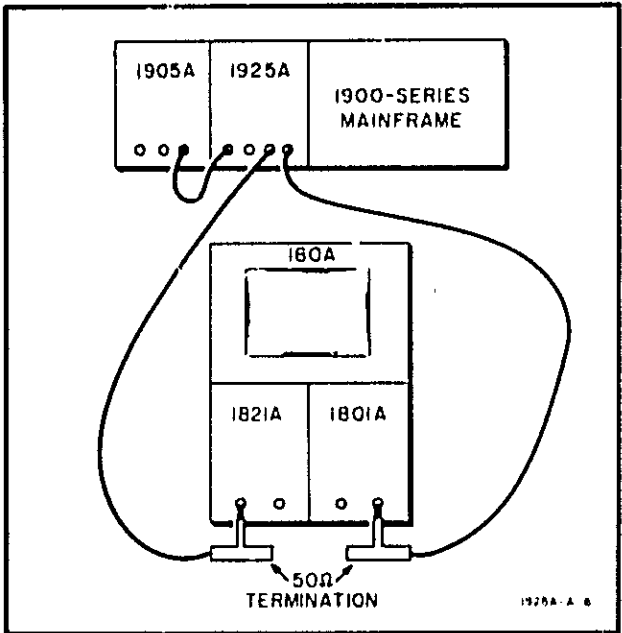

Figure 5-3. Word Output Test Setup
a. Connect the equipment and accessories as shown in Figure 5-3.
a. Connect the equipment and accessories as indicated in Figure 5-3.